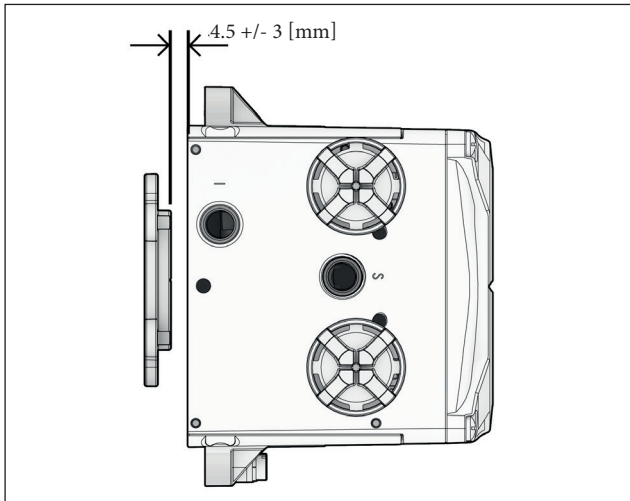

Fig. 24.
3. The distance between the magnet and the device bottom shall be 4.5 mm with  $\pm 3$  mm tolerance (1.5 - 7.5 mm). See fig 24.